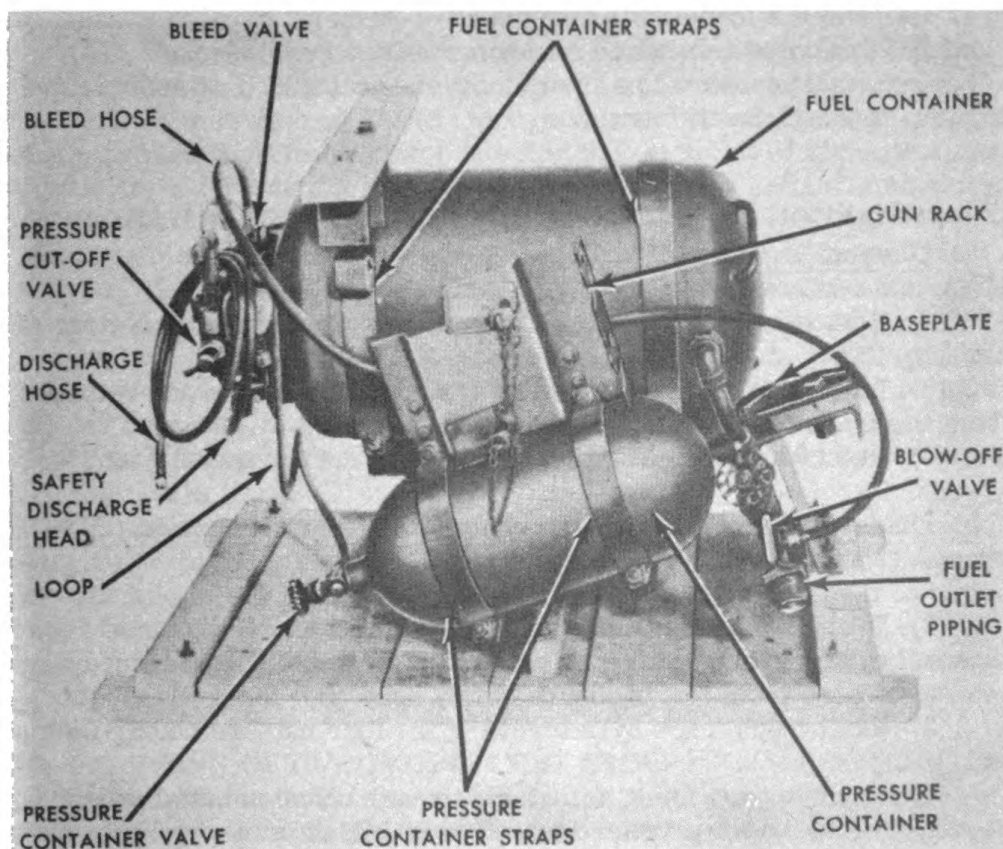
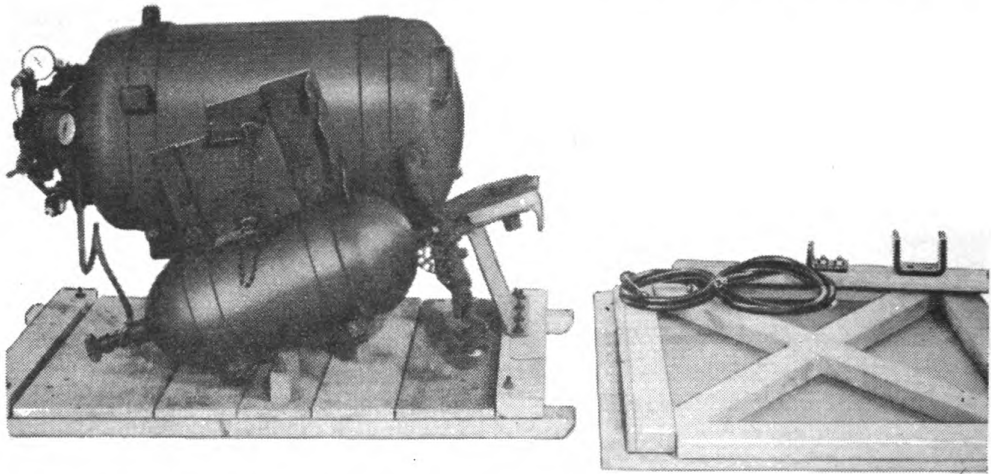

Fig. 25. Transmission fuel group ready for disassembly.
Fig. 26. U-bracket, discharge hose, bleed hose, and angle bracket removed from transmission fuel group.
- a. Dismantling packing box. (1) Remove box lid and place on ground (inner side up) near box.
(2) Remove sides and ends of box, leaving fuel group on bottom of box (fig. 25).
(3) Lay all parts and assemblies on box lid as they are removed from the transmission fuel group.
(4) Remove rust-preventive materials from transmission fuel group.
- b. Disassembly of parts and assemblies from transmission fuel group. (1) Remove U-bracket and angle bracket, both of which are bolted to a board.
(2) Disconnect bleed hose by unscrewing hex nuts of hose from blow-off valve and bleed valve. Disconnect discharge hose by unscrewing hex nut of hose from low pressure safety head (fig. 26).
(3) Remove gun rack by unscrewing the four nuts, removing bolts, and lifting out rack.
(4) Remove loop, using adjustable wrench on union nut at pressure container valve and on pressure cut-off valve. Make sure synthetic rubber washer of coupling is kept with loop.
(5) Remove the front left pressure container strap by unscrewing